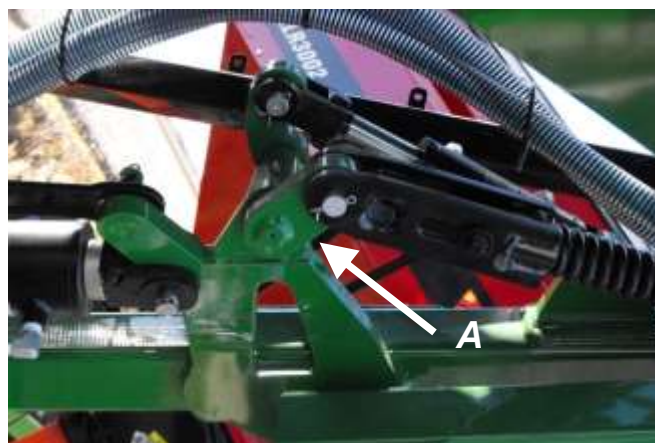

Figure 16A
Very important: When you lower the toolbar to the ground, keep the pressure on for a few seconds. This will allow times to lock the ground follower of the wings [figure 16A, **A**].
**Very important:** When you lower the front toolbar, make sure to keep the pressure on for a couple of seconds. This will let time to the ground following wings to lock. [Figure 16A].